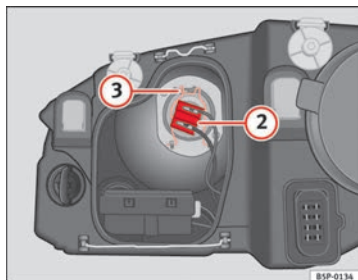

Fig. 191 Dipped beam headlights
- Remove connector ⇒ Fig. 191 ② from the bulb.
- Unclip the retainer spring ⇒ Fig. 191 ③ pressing inwards to the right.